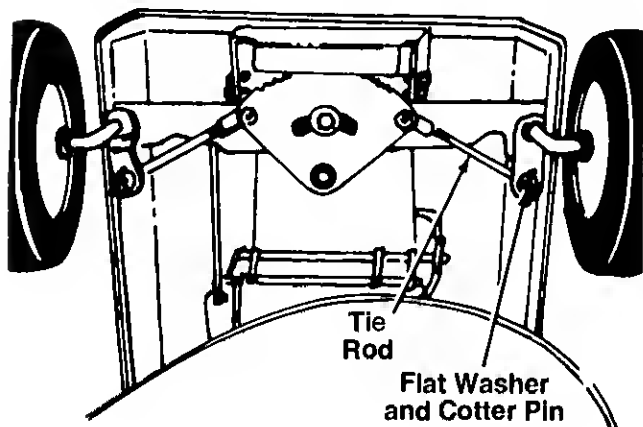

FIGURE 8.
The caster (forward slant of the king pin) and the camber (tilt of the wheels out at the top) require no adjustment. Automotive steering principles have been used to determine the caster and camber on the mower. The front wheels should toe-in 1/8 inch. See figure 8. To adjust, follow these steps:
1. Remove the cotter pin and flat washer which hold the tie rod to the axle bracket. See figure 8.